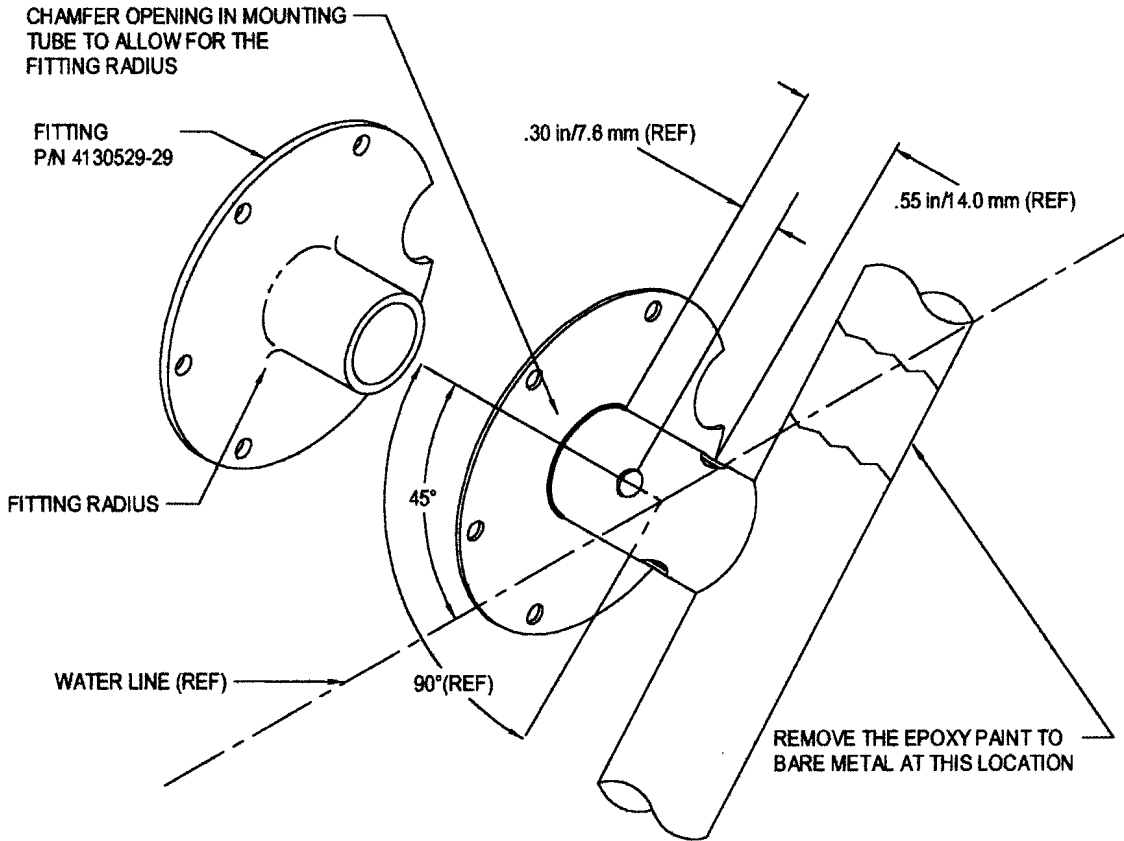

FIGURE B1
4. Check the fit of the replacement fitting, P/N 4130529-29, in the mounting tube. Polish the inside of the mounting tube as required to allow the replacement fitting to be inserted into the mounting tube. Chamfer the mounting tube at the inside diameter to clear the radius on the stub of the replacement fitting (see Figure B1). Remove the fitting from the mounting tube.
5. Drill four equally spaced #12 (4.8 mm) holes in the mounting tube at 45E to the water line (see Figure B1). Drill one pair of holes approximately .3 in. (7.6 mm) from the mounting plate. Drill the other set of holes .55 in. (14.0 mm) from the mounting plate. Deburr the holes and remove any debris from inside the mounting tube.
6. Remove the epoxy paint finish from the pylon in the area shown in Figure B1 and around the holes for the rosette welds.
Engine damage may occur when making a weld repair to the pylon using electric TIG welding if the TIG welder is not properly grounded. Never attach the TIG welder ground to the engine. The ground must be attached to a clean bare pylon tube as close to the weld as possible (See Figure B1). Use a C-clamp or other clamping device to ensure that the ground does not come off the pylon while welding on the pylon with the engine installed.